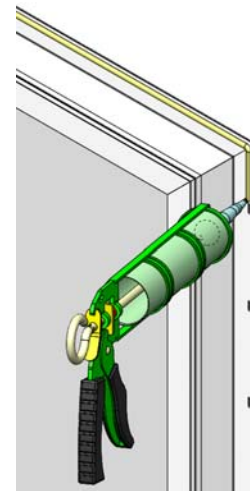

Fig. 6
- Bead must run continuously around both sides and across the head, in line with and completely covering the nailing flange holes. (Fig. 6)